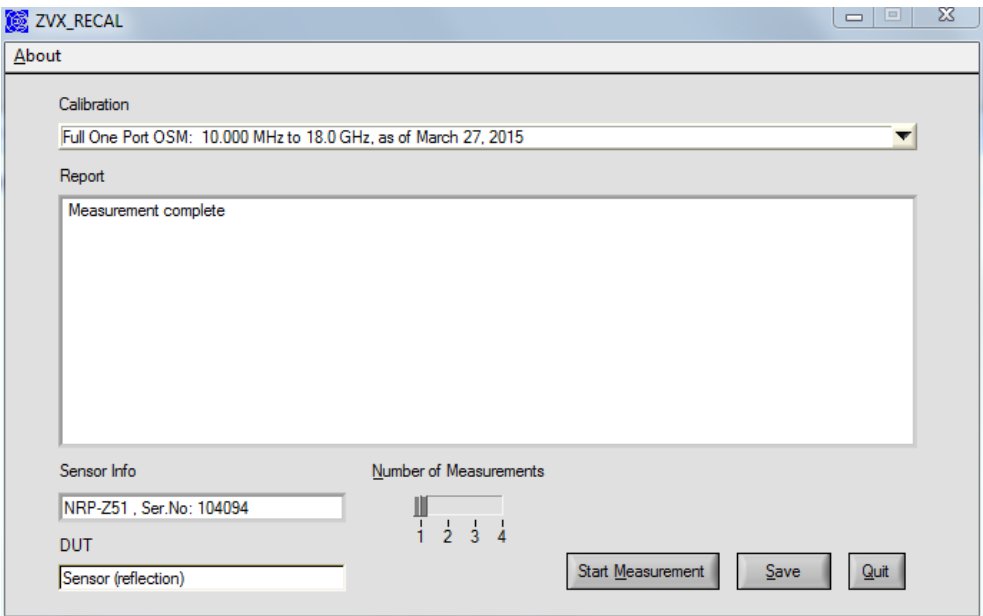
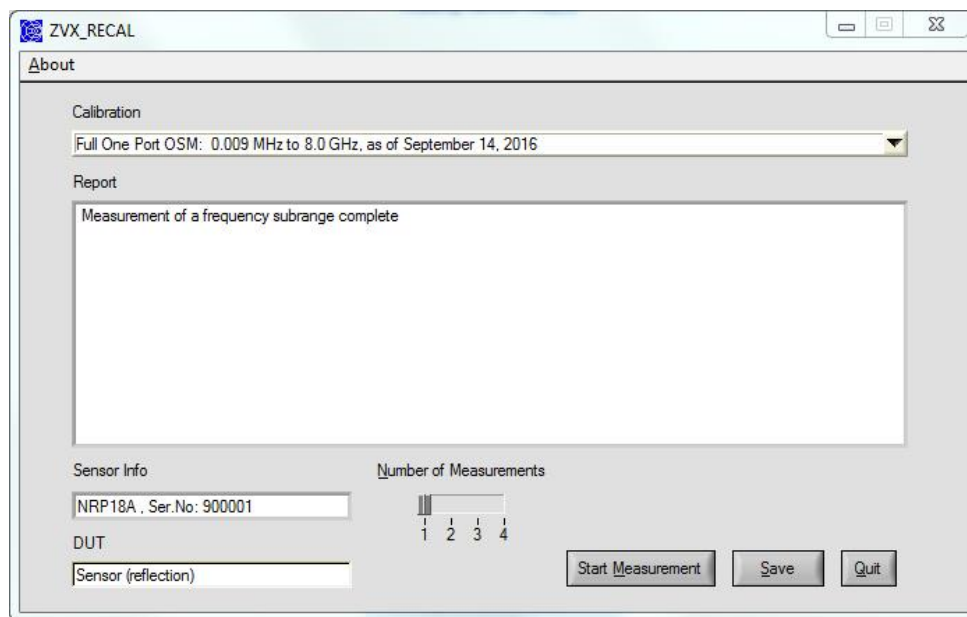

Fig. 6-10 User interface after completed reflection measurement
Fig. 6-11 User interface after reflection measurement of a frequency subrange
- Press the **Continue** button. Depending on the number of set measurements, there is either another prompt to connect the DUT (in another angular position) or the **R&S®ZVX_RECAL** user interface will appear with the ***Measurement complete!*** message (Fig. 6-10)
Depending of measurements performed the **R&S®ZVX_RECAL** user interface will appear with **Measurement of a frequency subrange complete** (Fig. 6-11) or the **Measurement complete** message (Fig. 6-10)